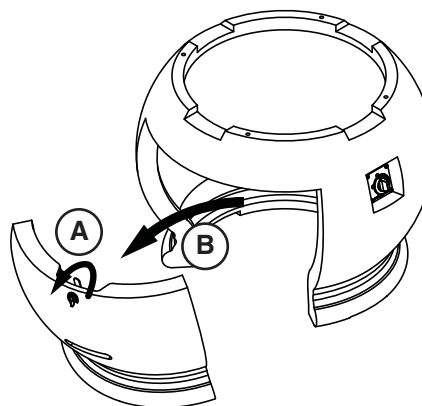

Fig. 18-2 Remove door
2. Remove the storage door by first turning the door handle counter-clockwise, then carefully pulling the door outward (see Fig. 18-2). Store in a safe location.